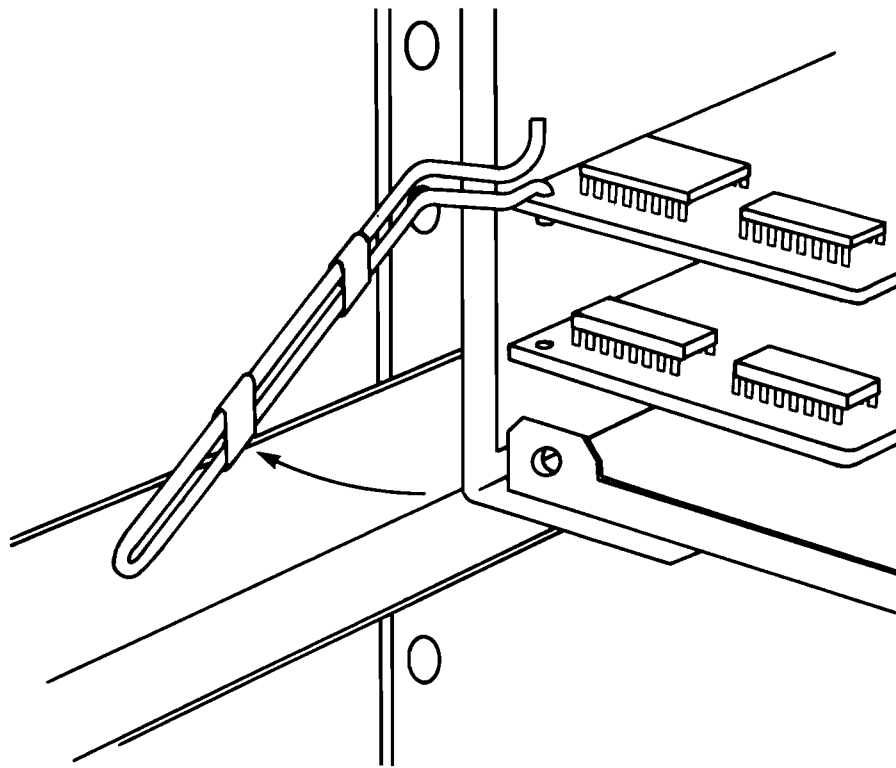

Figure 2-9 PCA Removal
- c) Refer to Figure 2-9. Insert the extractor tool in the hole on the left of the PC board and push the extractor tool to the left. This disconnects the PCA connector from the I/O Bus. The PCA can then be slid out of the unit by gently pulling the extractor tool on the left and the 50-pin connector on the right.